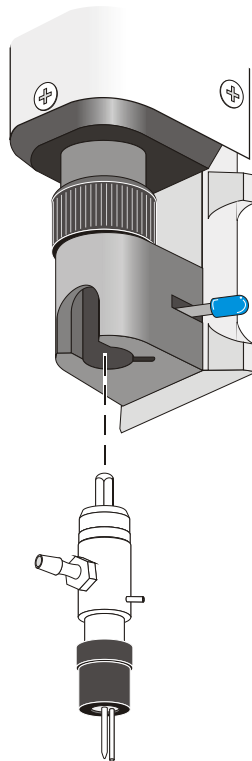

Figure 4-1 Cartridge Loading: DV-7000
5. Push the cartridge into the valve body making sure to align the guide pin (Figure 4-1).